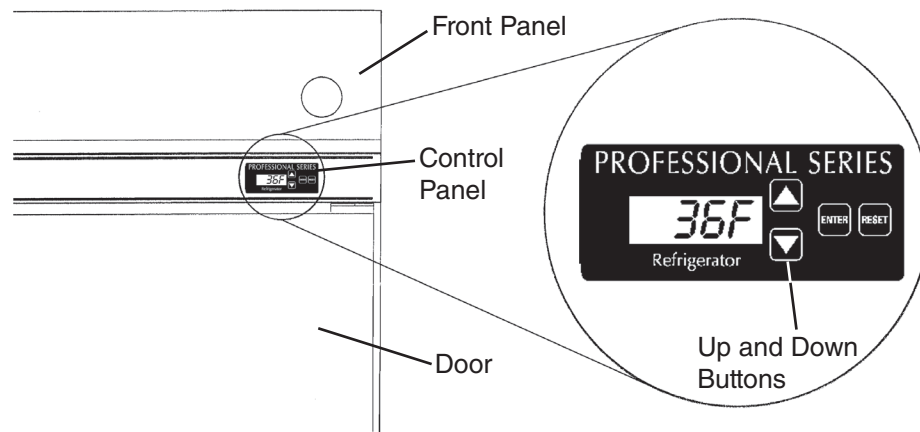

Fig. 14
- The cabinet temperature is displayed on the control panel. See Fig. 14. The display default is °F, but it can be changed to read °C. To change, see "II.C.3. Changing the Temperature Display Scale (°F or °C)".